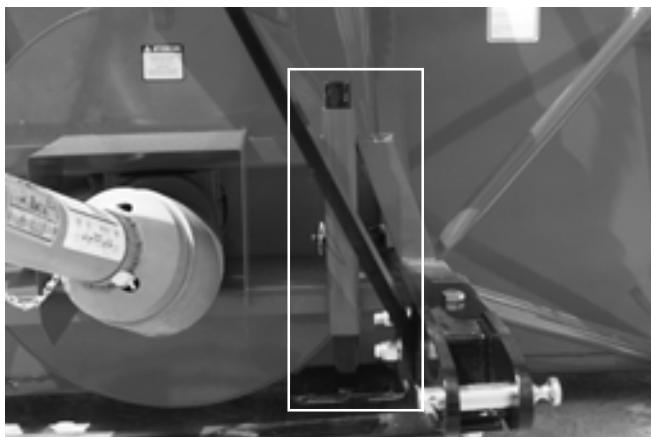

Figure 34
- 6) Following the installation of the Snowblower on the tractor, **do not forget** to lift the storage support (Fig. 34).